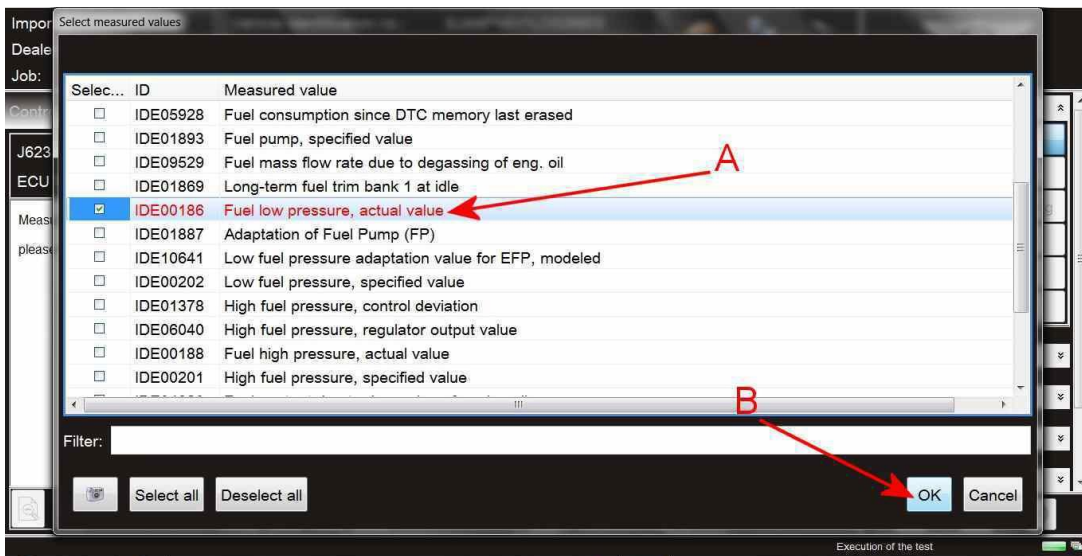

Figure 2
2) Fuel low pressure check - Referring to Figure 2 (Point A) navigate to Measured value IDE00186 Fuel low pressure, actual value